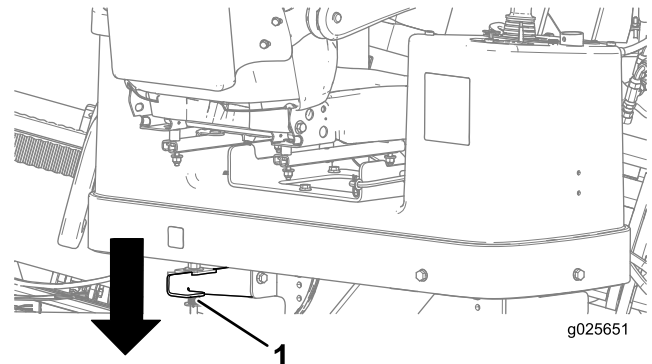

Figure 79
5. Push down on the rear platform latch securing the operator platform, and swing it out to the desired position, ensuring that it locks in place (Figure 79).